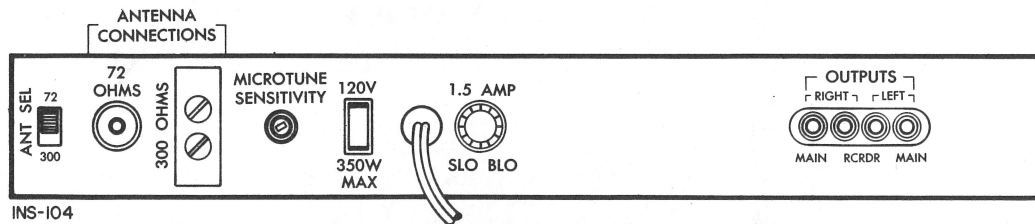

FIGURE 1. Rear panel.
1. Connect the FM antenna to the two screw terminals marked 300 ohms on the rear panel, as shown in Figure 1. The folded dipole antenna supplied with the *FM-200-B* should be more than adequate for most areas. The arms of this antenna should be mounted horizontally, in a straight line, and away from all large metal objects and electrical wiring.